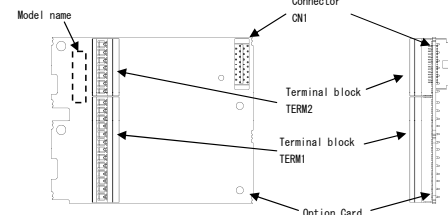

Figure 1.1 Product Appearance.
- (1) The option card is contained in the package.
- (2) The option card is not damaged during transportation—no defective electronic devices, dents or warps.
- (3) The model name "OPC-PR" or "OPC-PS" or "OPC-PSH" is printed on the option card. (See Figure 1.1.)